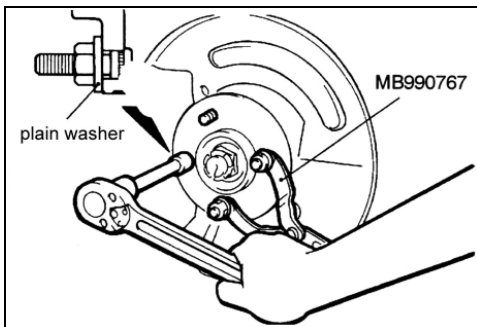

Fig.12-3
(3) Install the plain washer to the new hub bolt, and install the bolt with a nut.(see Fig.12-3)。